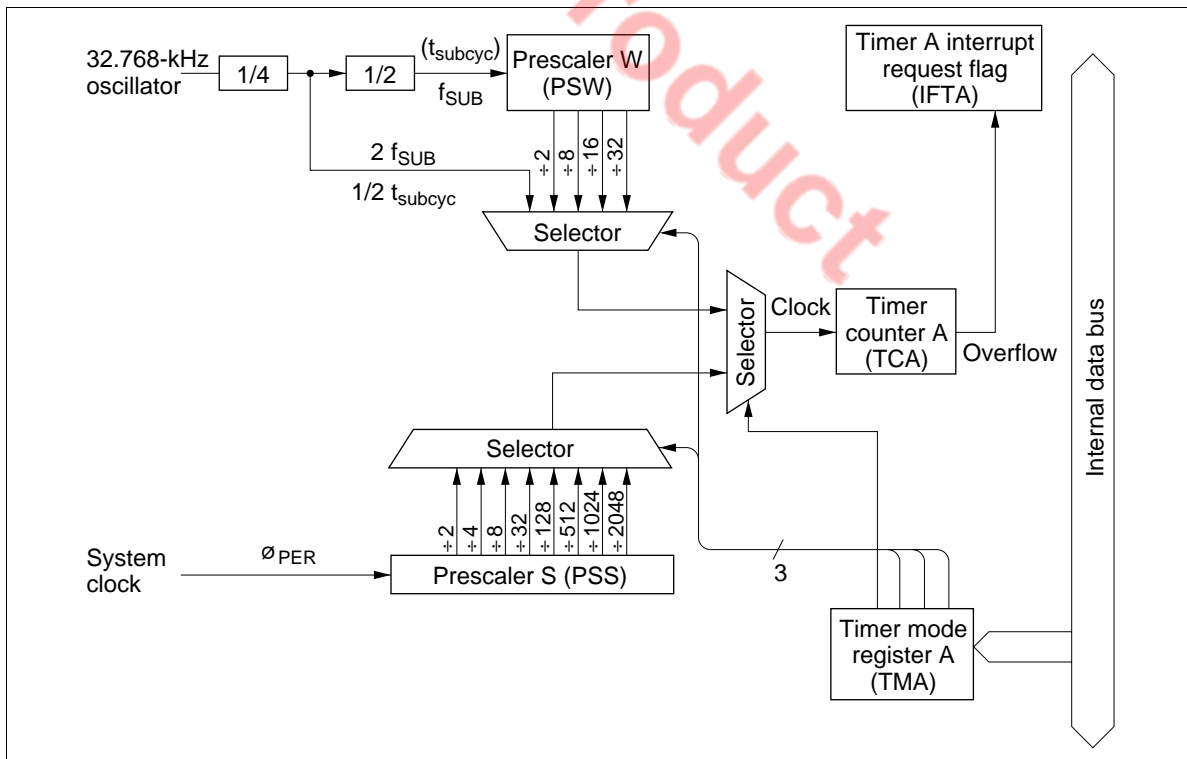

Figure 26 Timer A Block Diagram
The MCU has two prescalers (S and W) and three timer/counters (A, B, and C). Figures 26, 27 and 28 show their diagrams.
**Timer A:** Eight-bit timer that can be used as a clock time-base (figure 26). It is initialized to \$00 and incremented at each clock input. If an input clock is applied to timer A after it has reached \$FF, an overflow that sets the timer A interrupt request flag (IFTA: \$001, bit 2) is generated, and timer A restarts from \$00.